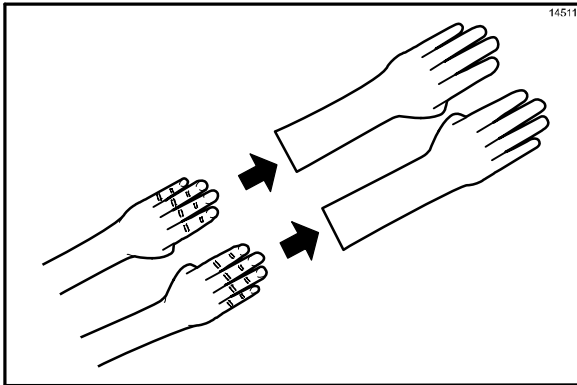

Figure 38
- Put on heat-resistant gloves. (See Figure 38.)